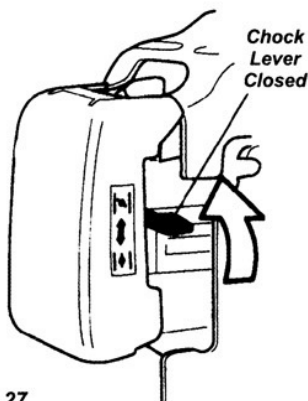

Figure 27
4. Choke the engine by moving the choke lever up to the "closed" position. See Figure 27.